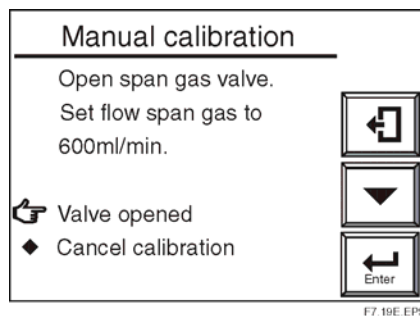
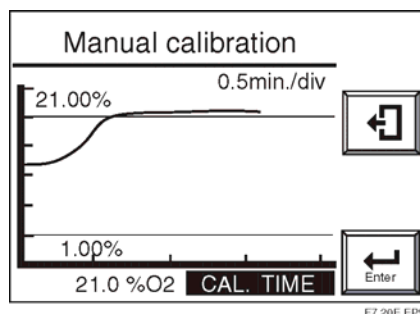

Figure 7-25 Span-gas Flow Display
Figure 7-26 Manual Calibration Trend Graph
- Follow the prompt in Figure 7-25 to establish span gas flow. Open the span-gas flow valve of the Flow Setting Unit by loosening the valve lock-nut and slowly turning the valve shaft counterclockwise. Set the flow to  $600 \pm 60$  ml/min. as measured by the calibration gas flowmeter.
- After the span gas flow has been established, select "Valve opened" as shown in Figure 7-25. An oxygen-concentration trend graph appears (see Figure 7-26). The CAL TIME in the bottom area of the panel flashes. Observe the trend graph and wait until the measured value stabilizes in the vicinity of 21% on the graph. The graph shows the concentration before calibration, so the value may not be correct at this point.